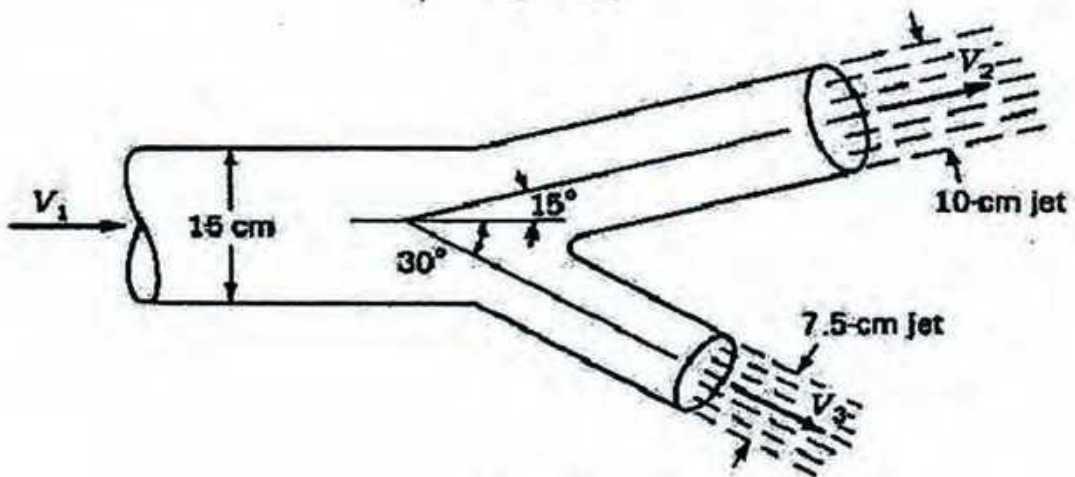

Figure 7(a).
7. (a) Determine the magnitude of the resultant force exerted on the double nozzle shown in figure 7(a). Both nozzle jets have a velocity of 10 m/s. The axis of the pipe and both nozzles lie in a horizontal plane. Neglect friction. [$S=1.35$]. (10)